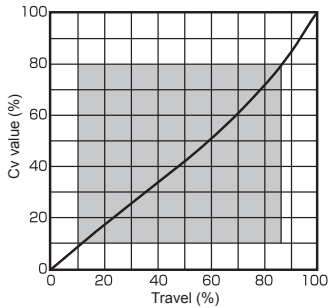

Figure 4. Cv values 0.1, 0.16, and 0.25 (linear model)
**Based on the rated Cv value and the calculated necessary Cv value, check the controllability (valve position) using the flow control characteristics tables in Figure 4, 5, and 6.**